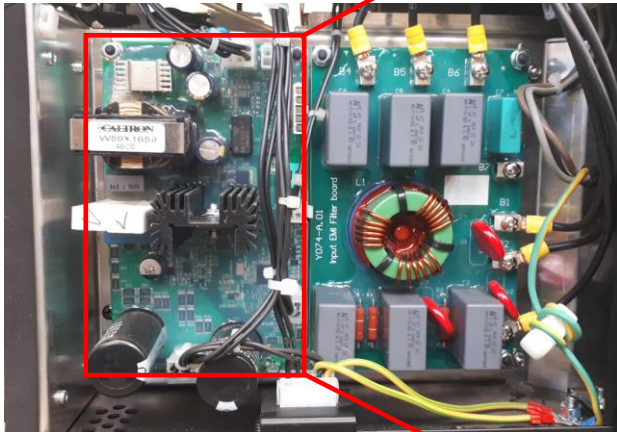

Figure 29
3. Locate the Aux. Power Supply Board. See **Figure 29**